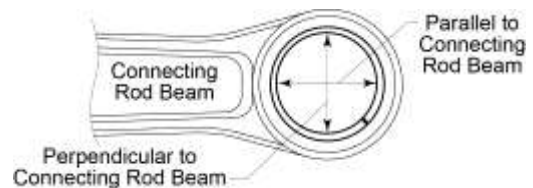

Figure 34
C. After bushing removal, measure the inside diameter of the connecting rod both parallel and perpendicular to the connecting rod beam (Figure 34). If either inside diameter measurement is not between 1.1833 in. (30.056 mm) and 1.1848 in. (30.094 mm), discard the connecting rod and replace it with a serviceable connecting rod.